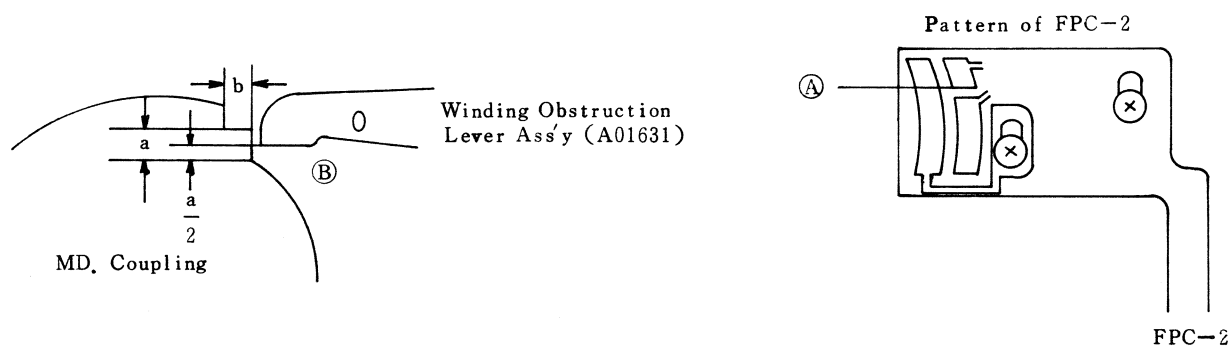

Fig 47
(5) Adjustment of TF-Switch
- a) After winding, return the Winding Lever slowly and check that the point of the Winding Obstruction Lever Ass'y is located at position ③ of the Winding Obstruction. When the contact part of the Winding Obstruction Lever Ass'y contact is located at position ④ as shown in (Fig 47).
- b) The position ④ is the pattern of FPC-2, so it is available switch ON or switch OFF.
- c) Adjust the position of pattern of FPC-2 so that you may be able to release the Shutter surely when the point of the Winding Obstruction Lever Ass'y is located at position ③